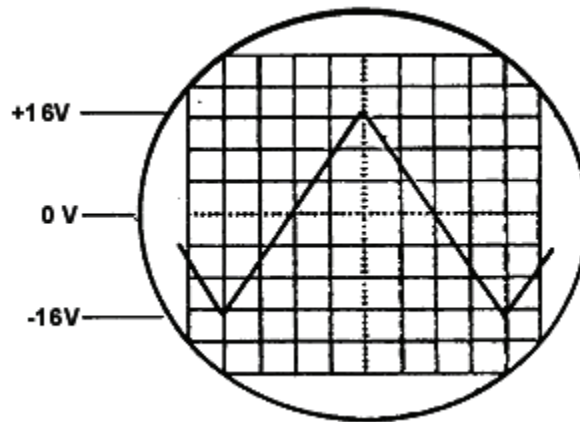

Figure 6. Sweep ramp (M1H output).
- (2) Connect oscilloscope to pin 10 of the remote jack and chassis ground.
- (3) Adjust oscilloscope controls to produce a stable display similar to figure 6.